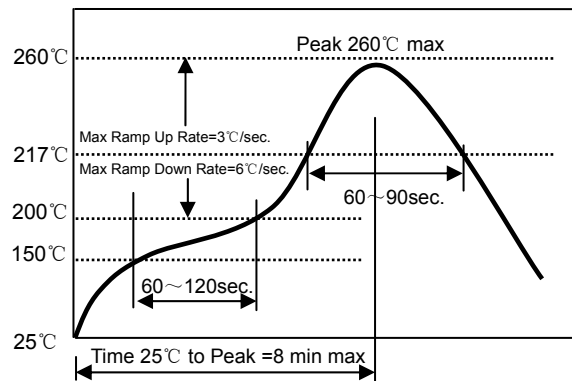

Fig. 8-1
8.1 Reflowing Profile(Fig. 8-1):